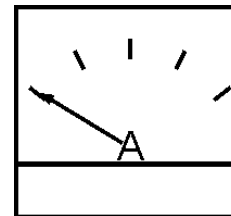

Figure 53. Ammeter (No Load)
12. The ammeter (Figure 53) will indicate zero amps with no load applied. When a load is applied, this meter will indicate the amount of current that the load is drawing from the generator.